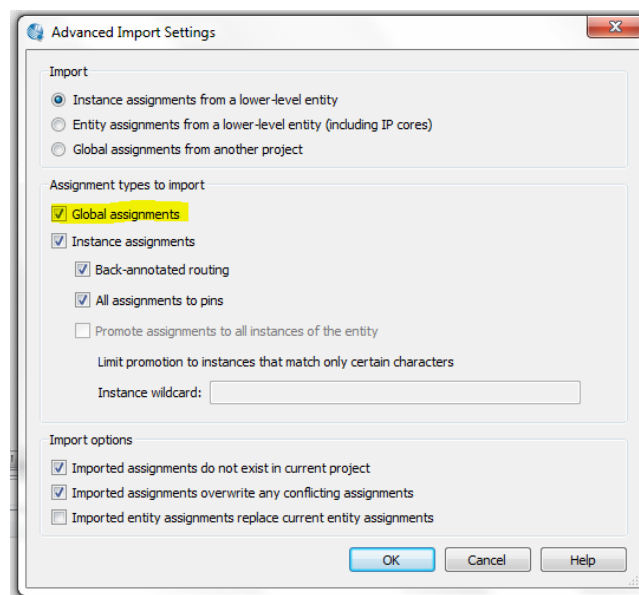

Figure 8: Import assignments advanced options menu
2. Then click **ADVANCED** → **check Global Assignments** → **Ok** as shown in Figure 8.